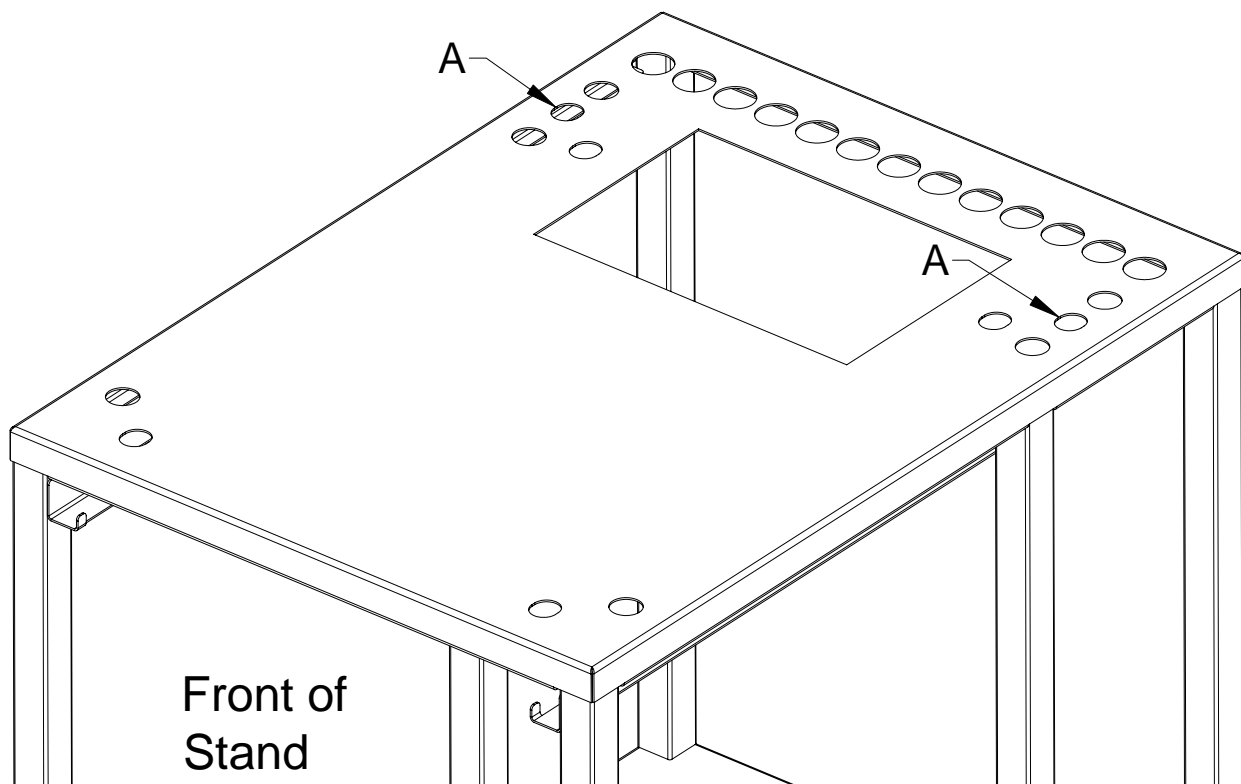

Figure 1 SteamChef™ Mounting Holes
4. Align the steamer so that the rear mounting bolts will come up through the holes marked "A" in Figure 1.